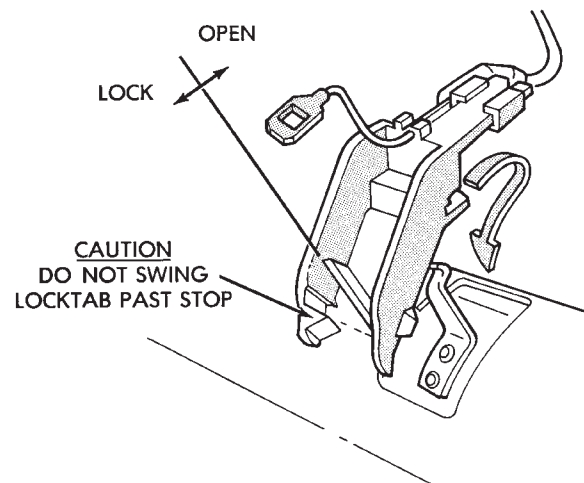

Fig. 13 PRNDL Step 3
(5) Remove guide tube from behind fuse block and disconnect cable eyelet from column actuating arm.
(6) Release lock bar on column insert, squeeze legs together and remove from column (Fig. 13).
- (3) Insert flange of column insert into column, squeeze legs together with tabs under column jacket and engage lock bar to secure insert (Fig. 13).
- (4) Hook cable eyelet to steering column actuator check pointer, should indicate neutral. Do not kink or bind PRNDL guide tube and position guide tube in original location.